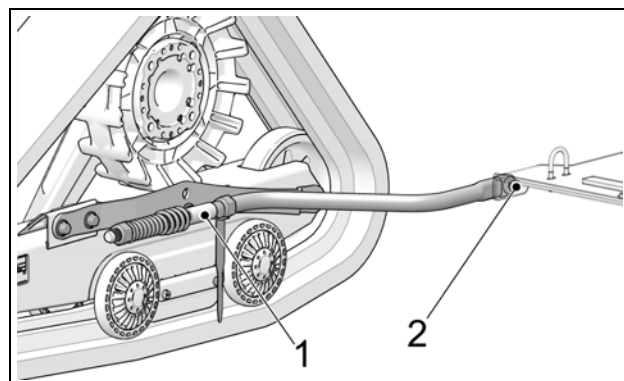

Figure 9
- Stabilizing arm (1) must be attached to Track System and to rear anchor bracket (2) installed on vehicle. See Figure 9.